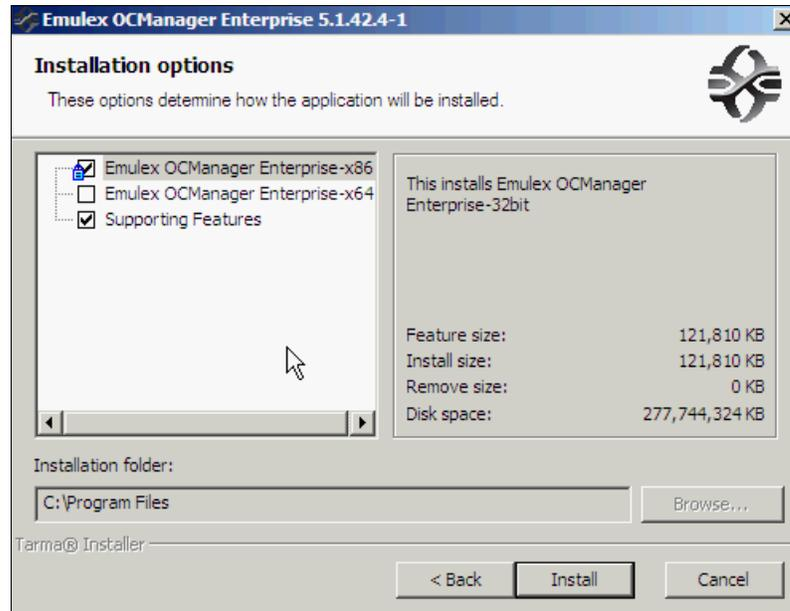

Figure 10-99 Installation options window
3. In the Installation options window (Figure 10-99), click **Install** to accept the default options.